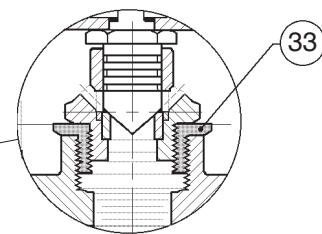

Figure 6: Cylinder Bushing (33)
1. Place body (1) back into vise.
2. a. For standard orifice: Lubricate the cylinder (12) threads lightly with thread sealant, insert the cylinder (12) into the body (1) and screw CW until finger tight. Impact the cylinder (12) into the body (1).
- b. For 1-1/2" (DN40) body reduced orifice ONLY: Lubricate cylinder (12) and cylinder bushing (33) threads lightly with thread sealant. Screw the cylinder (12) into the cylinder bushing (33) until finger tight. Then screw the cylinder (12) and cylinder bushing (33) "subassembly" into the body (1) until finger tight. Impact this cylinder (12)/cylinder bushing (33) "assembly" into the body (1). See Figure 6.
3. Place diaphragm flange o-ring (32) on body (1) flange.
4. Place piston (14) in a vise with threaded post portion directed upwards, grasping on the hexagonal surface.
5. Position properly oriented pusher plate (21) over piston (14) post.
6. Place pusher plate o-ring (34) into recess of pusher plate (21). Lubricate with good grade lightweight grease.
7. Place diaphragm (3) and diaphragm covers (24) (NACE construction only) according to following instructions:
- a. NACE variation only (Cashco Dwg. #32934): Place one of the two diaphragm cover(s) (24) over piston (14) post. Place diaphragm (3) and second diaphragm cover (24) over piston (14) post.
- b. NON-NACE variation only (Cashco Dwg. #32935): Place diaphragm (3) over piston (14) post.
8. Place pressure plate o-ring (31) into recess of pressure plate (20). Lubricate with a good grade lightweight grease. Position pressure plate (20) over the piston (14) post.
9. Place the sealing washer (27) (metal side up) over the piston (14) post.
10. Thread piston nut (6) onto piston (14) post. Torque to the following value: